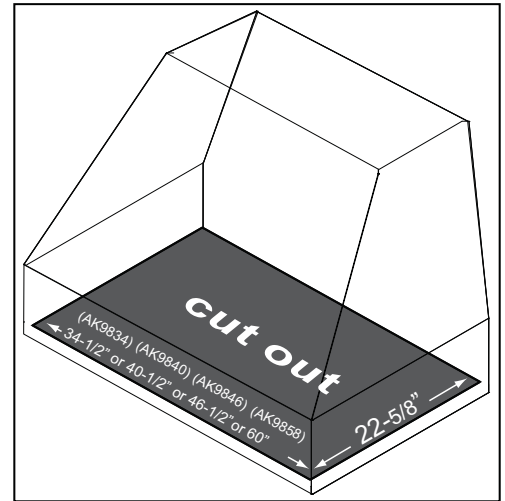

FIG. 1
2. Cut out an opening in the bottom of the cabinet by following the dimensions in FIG. 1.